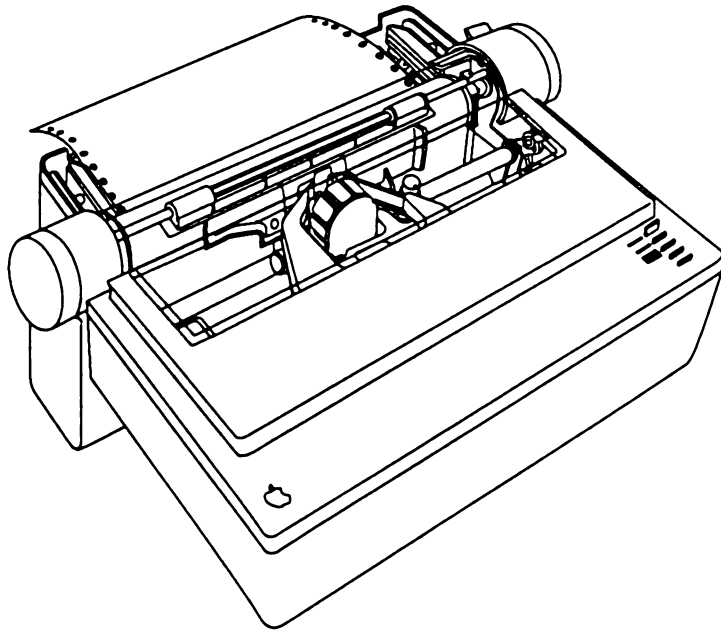

Figure 12. Loading pin-feed paper
5. Lay down the lead sheet of paper so that the first three pins on the left-margin tractor poke through the first three pin holes on the left side of the paper, as shown in Figure 12. Do not worry about the other side of the paper for the moment.